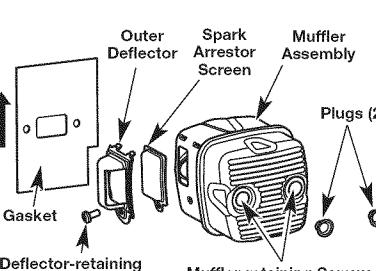

Fig. 52
2. Use a T27 Torx wrench to remove the two muffler-retaining screws (Fig. 52).
8. Insert the two muffler-retaining screws into the muffler assembly. Place the gasket behind the muffler assembly so that the two muffler-retaining screws pass through the two holes in the gasket. Make sure the narrow end of the gasket faces the bottom of the muffler assembly (Fig. 52). Insert the muffler assembly and gasket into the cavity at the front of the unit so that the screws align with the two screw holes in the front cavity. Tighten the muffler-retaining screws securely to a torque of 80-90 in.lbs. If necessary, hold the gasket from the side with a pair of needle-nose pliers while tightening the screws. If assistance is required for achieving the proper torque, have the unit serviced by an authorized service center.